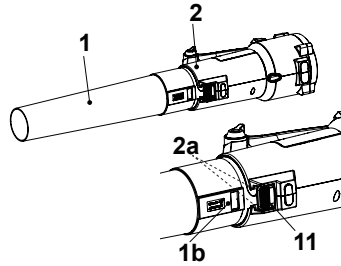

Fig. 1
1. Align the spigot (1b) with the sliding slots (2a) onto the air outlet (2), then insert the air tube (1) into the air outlet (2) all the way until an audible click is heard (Fig. 1).
2. Pull the air tube (1) to verify that it is securely locked by the clamp lever (11).